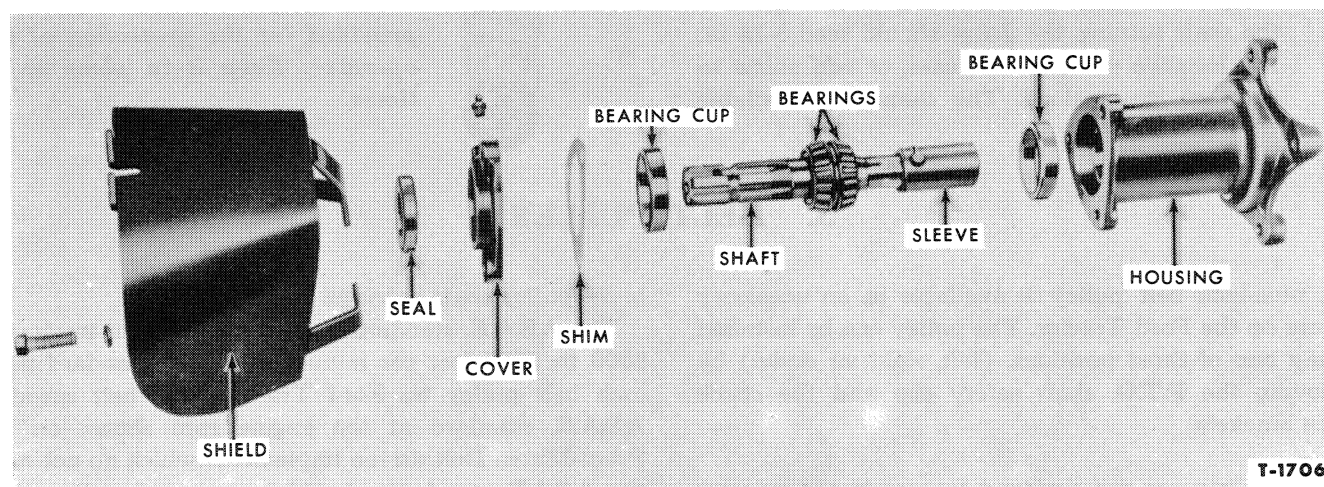

Figure 7—Power Take-Off Conversion Assembly
2. Remove the shield, cover, and shim pack, Figure 7. Tag the shim pack for later assembly.
3. Remove the rivet from the shaft and sleeve, Figure 7. Pull the sleeve off the shaft.